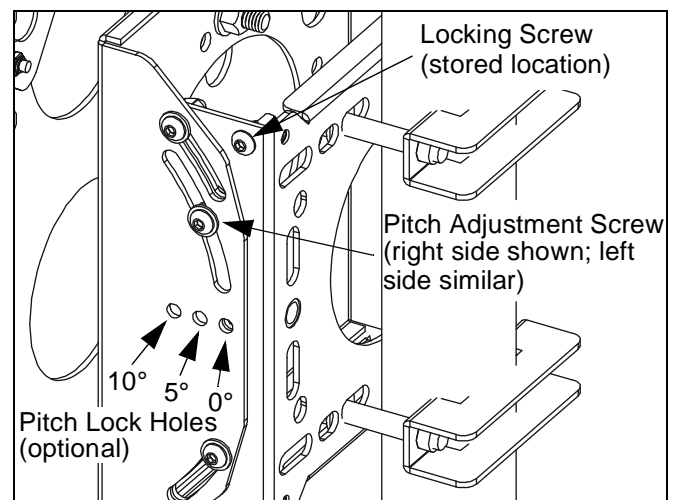

Figure 9: Pitch Adjustment
1. Loosen right and left pitch adjustment screws (see Figure 9).
3. Tighten pitch adjustment screws (see Figure 9).